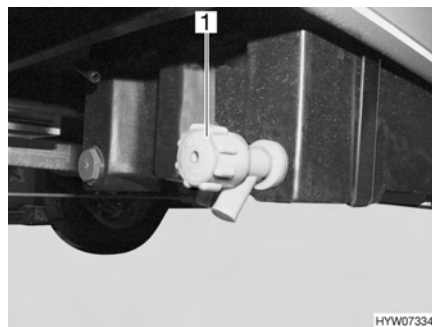

Fig. 89 Drain cock for waste water tank
- Turn the cap (Fig. 89,1) of the drain cock in an anticlockwise direction.
- Turn the cap (Fig. 89,1) in a clockwise direction. The drain cock is closed.